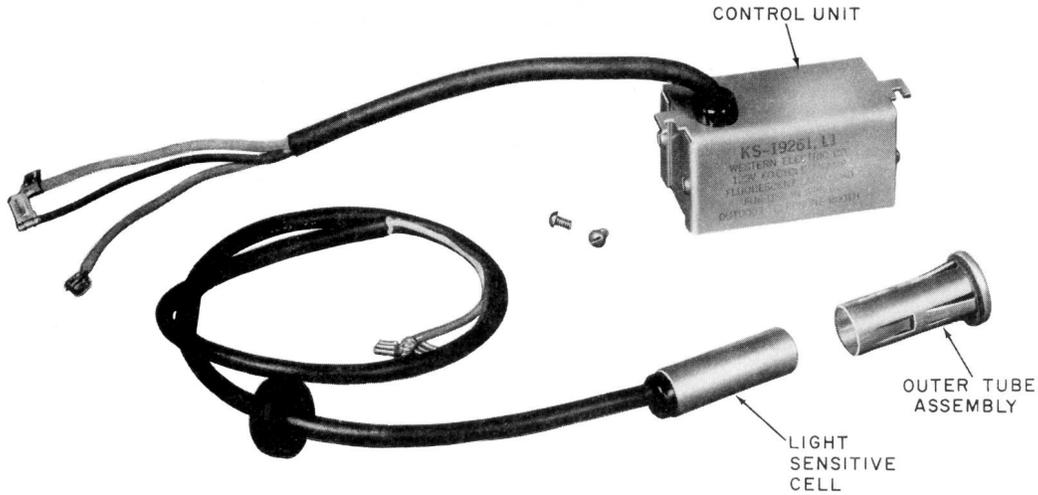
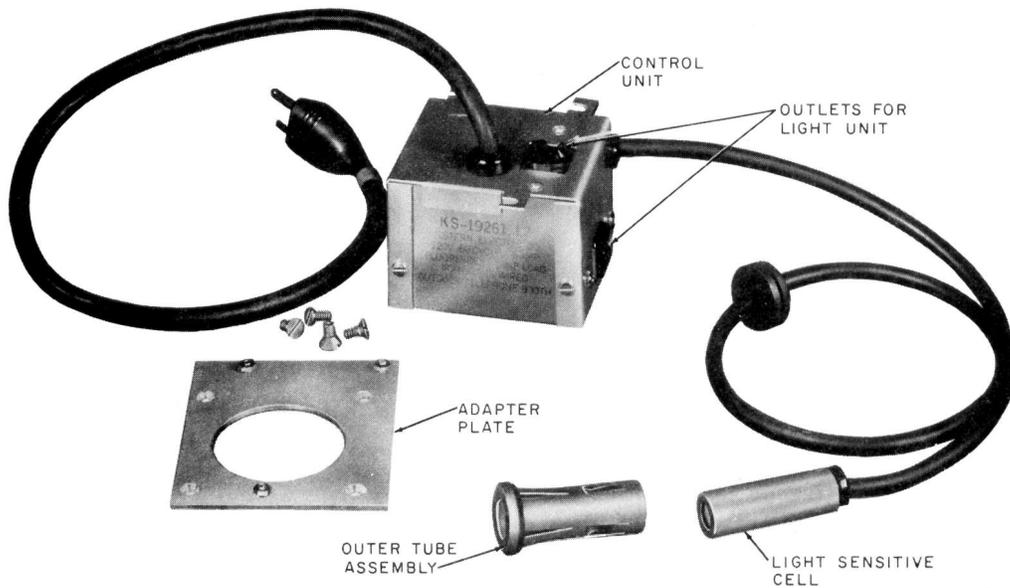
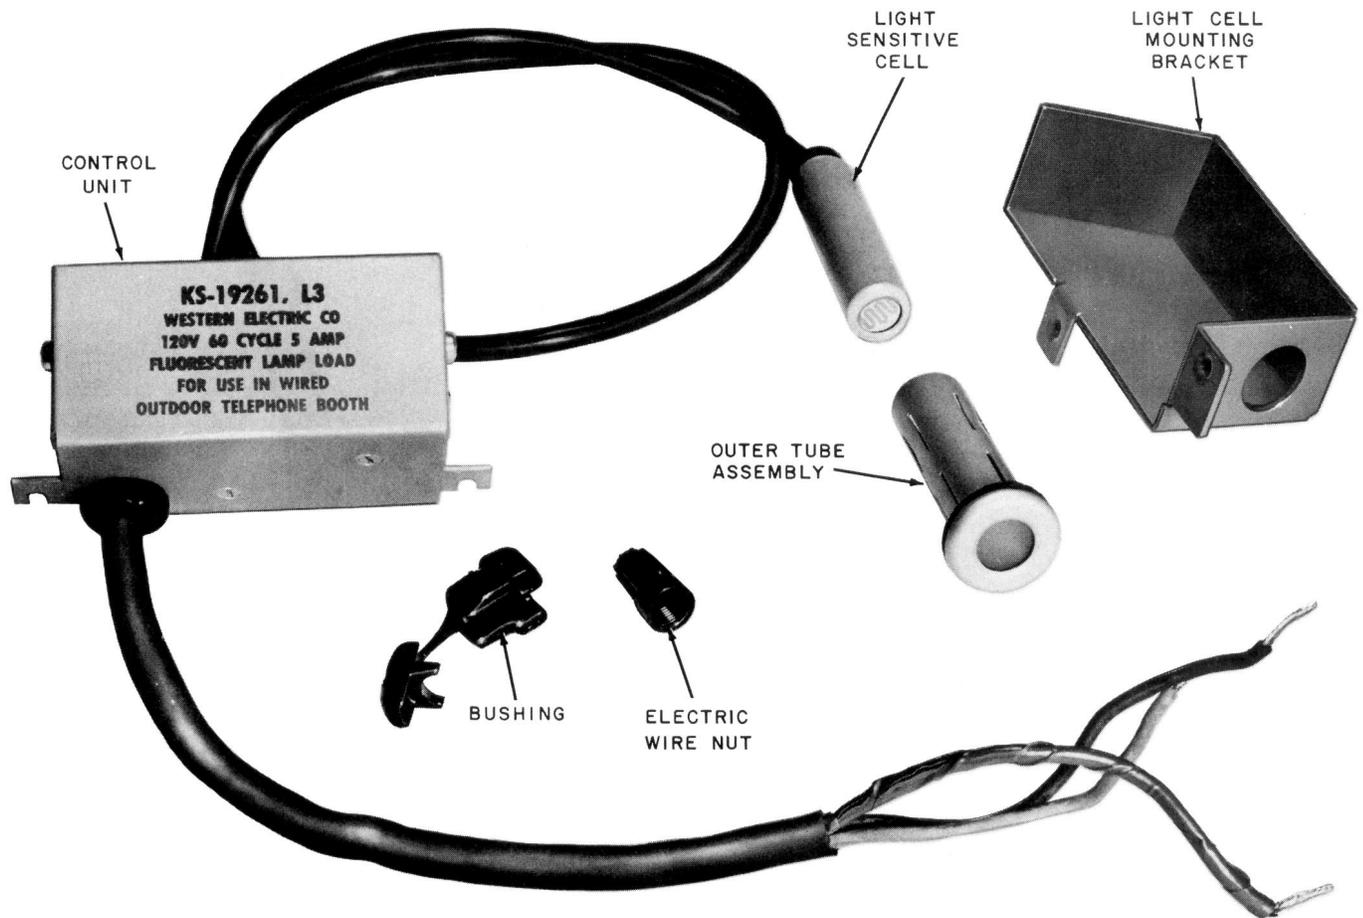

Fig. 1—KS-19261, List 1 Light Control Unit
Fig. 2—KS-19261, List 2 Light Control Unit
Fig. 3—KS-19261, List 3 Light Control Unit
2.01 The List 1 unit (Fig. 1) is designed for the following outdoor booths:
- KS-14611 Airlight booth (MD) is equipped with a KS-19207 light fixture.
- KS-16797 Universal booth (MD) is equipped with a KS-19207 light fixture.
2.02 The List 2 unit (Fig. 2) is designed for the following outdoor booths and telephone enclosure:
- KS-14611 Airlight booth (MD) is equipped with B-185379 light fixture.
- KS-16797 Universal booth (MD) is equipped with B-185379 light fixture.
2.03 The List 3 unit (Fig. 3) is designed for use in the KS-19426 walk-up, drive-up mounting.